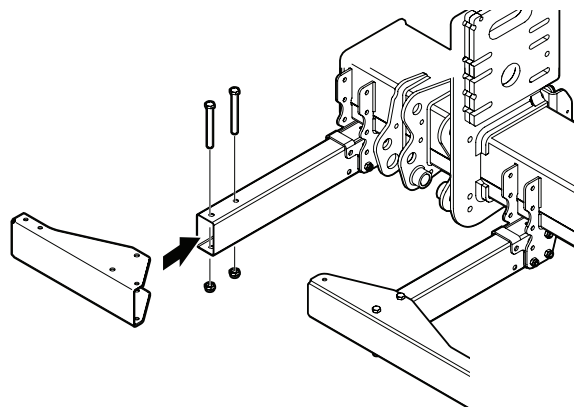

Figure 54. Installing the outer sheet-metal profile
4. Install the outer sheet-metal profiles using 2 x M12x110 bolts each. See Figure 54.